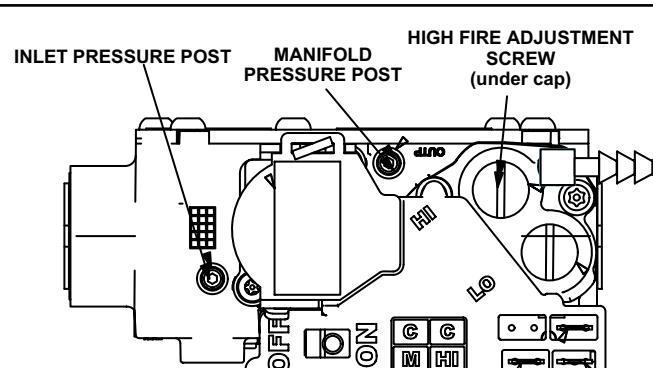

Figure 45. Gas Valve
### Gas Valve Operation (Figure 45)
6. Move gas valve switch to OFF. See Figure 45.
8. Move gas valve switch to ON. See Figure 45.
An inlet post located on the gas valve provides access to the supply pressure. See Figure 45. Back out the 3/32 hex screw one turn, connect a piece of 5/16 tubing and connect to a manometer to measure supply pressure. See Table 18 for supply line pressure.
A manifold pressure post located on the gas valve provides access to the manifold pressure. See Figure 45. Back out the 3/32 hex screw one turn, connect a piece of 5/16 tubing and connect to a manometer to measure manifold pressure.
4. After allowing unit to stabilize for 5 minutes, record low fire manifold pressure and compare to value given in Table 18. If necessary, make adjustment. Figure 45 shows location of low fire adjustment screw.
5. Repeat on high fire and compare to value given in Table 18. If necessary, make adjustment. Figure 45 shows location of high fire adjustment screw.